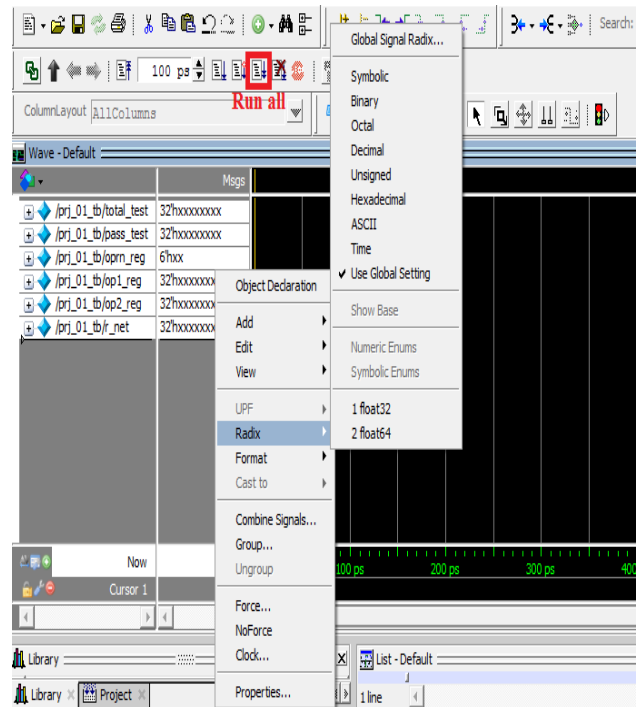

Figure 4.9 Waveform window
- The maps values as shown in figure 4.9 will be in hex. Therefore, in order to change them to decimal, octal or in binary, select all values and right click on them and select 'Radix' option and then select Decimal, octal or whatever you want.
- Next, click on 'Run All' button as shown in figure 4.9 and you will be able to see the output waveforms.